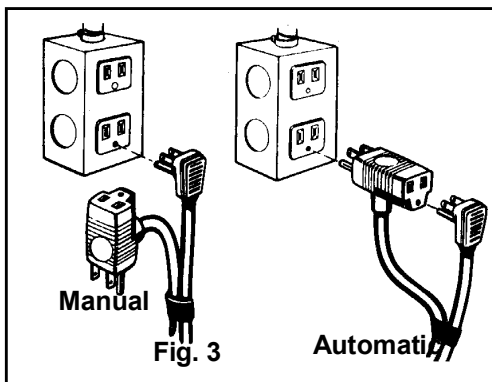

Fig. 3
6.) Figure 3 shows a typical connection for pumps with the wide angle float and piggy-back plug. for manual and automatic operations.